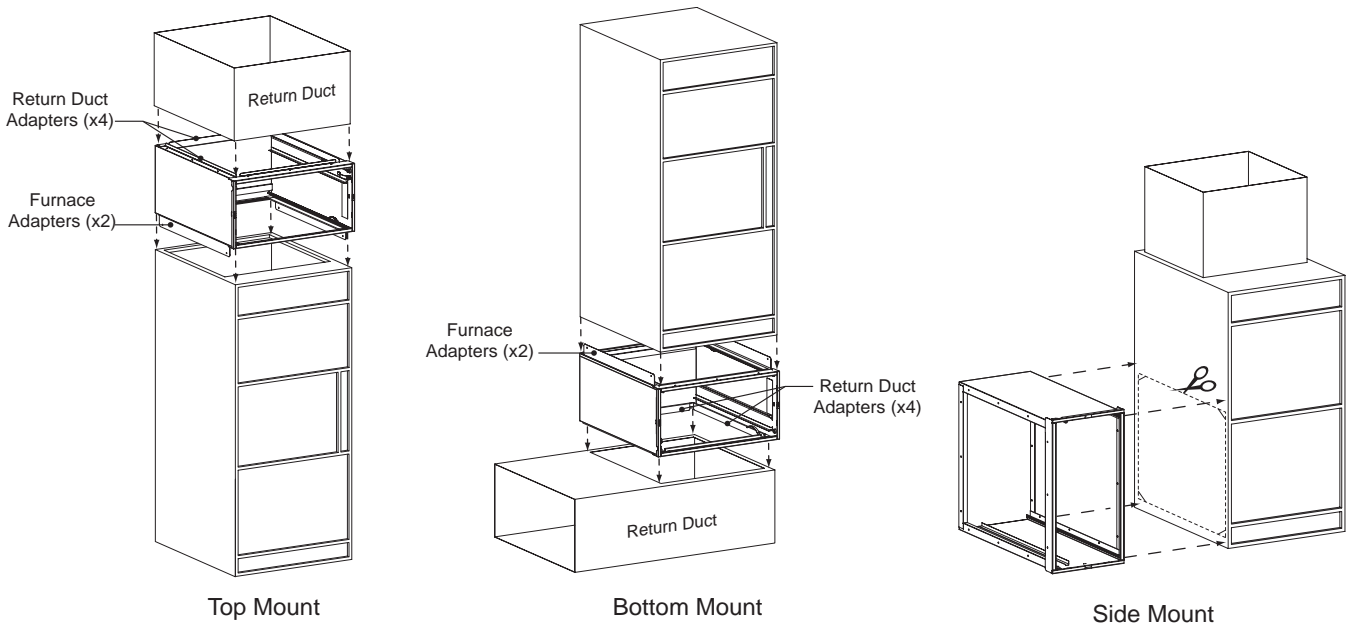

Fig. 4 - Mounting Perfect Air™ Purifier Cabinet
- d. Position the cabinet between the furnace and return air duct (see Fig. 4). A transition duct may be required.